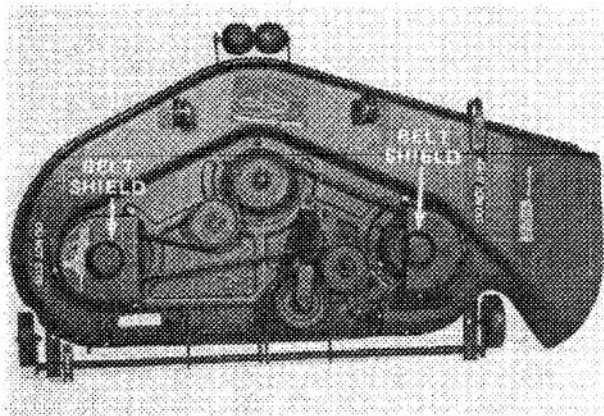

Figure 37
2. Remove screws securing belt shields to deck and remove shields (Fig. 37).